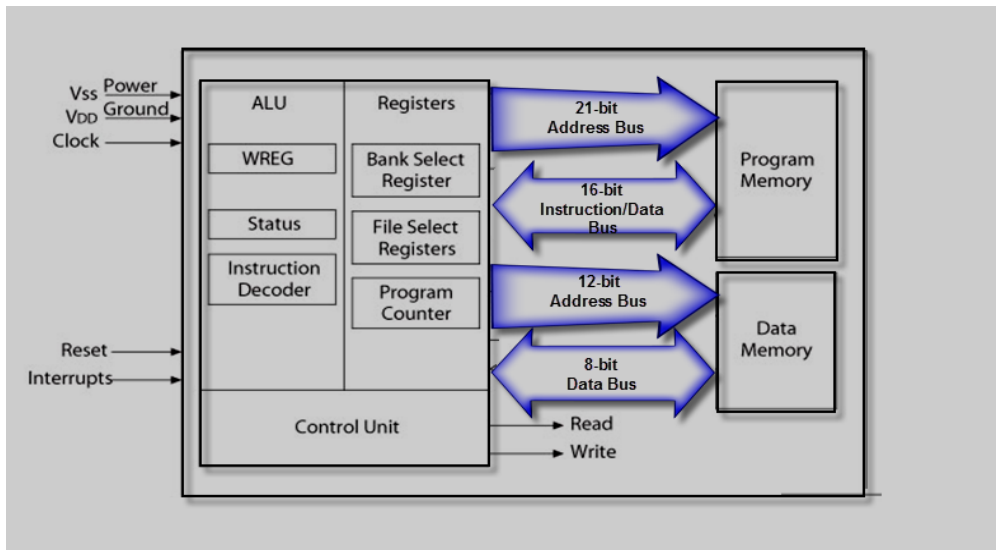

Fig. 5 Block Diagram PIC18F4520
A simple block diagram of the PIC18 is as shown below in Fig. 5. The CPU consists of an 8-bit **ALU** (Arithmetic Logic Unit), a **Working Register** (WREG), the **Instruction Decoder**, the **Status Register**, the **Program Counter** (PC), the **Bank Select Register** (BSR) the **File Select Registers** (FSR), and the **Control Unit**.